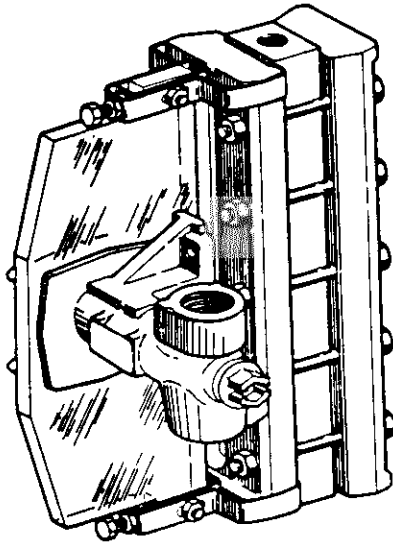

Figure 1
1. Mount illuminator to gage as shown in Figures 1 and 2.